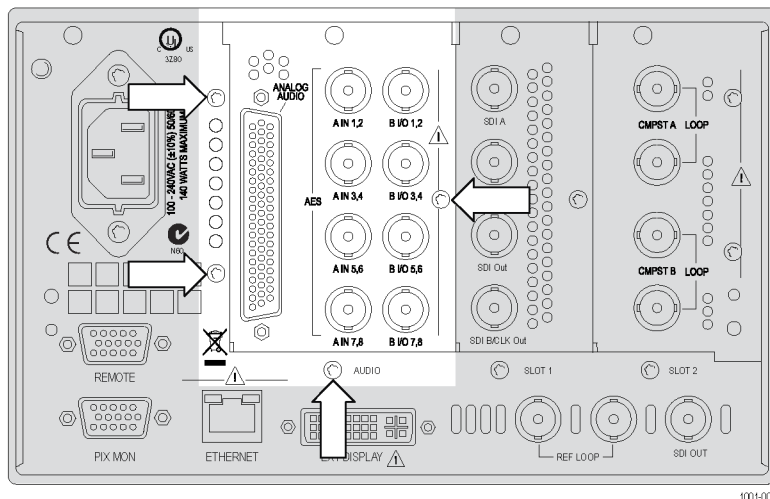

Figure 11: Removing the audio rear panel screws
1. Remove the four screws from the audio-options rear panel. (See Figure 11.) Save the screws for reinstallation.